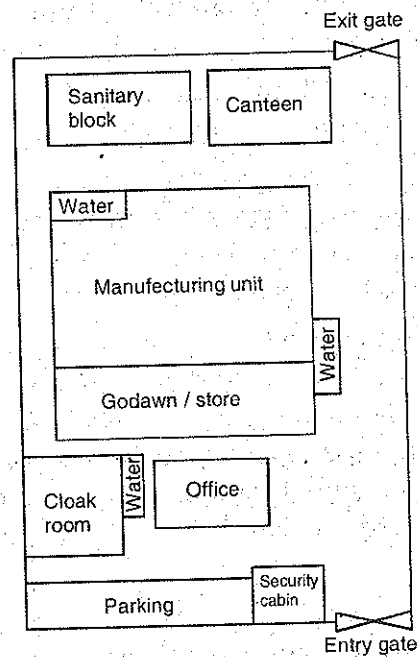

Fig. 9.22 Layout of Industrial Building-II
- Q.5. (b) Discuss layout plan of a typical Industrial Building having usual units like workshop, store for raw material and finished goods, office, toilets etc. [Page 9.22, Fig. 9.22] 05